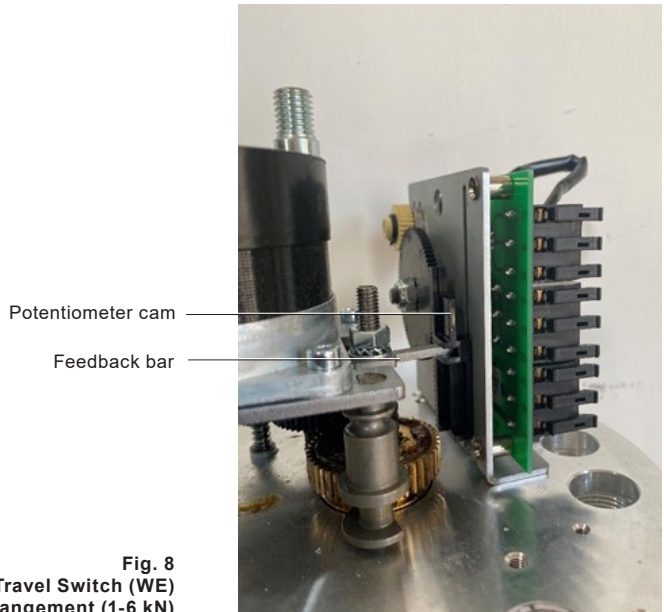

Fig. 8
- Couple the fixed feedback bar directly to the driving rod of main actuator spindle. See Figure 8 "Auxiliary Travel Switch Feedback Arrangement (1-6 kN)" for product orientation
- Slide switch S4 first onto the switch retaining pins ensuring that orientation is as shown in Figure 8
- Slide switch S5 onto the switch retaining pins ensuring that orientation is as shown in Figure 8